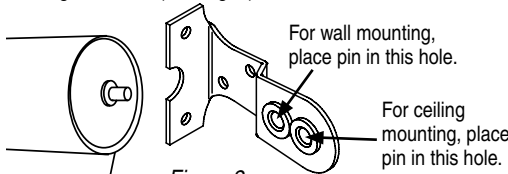

Figure 2
- ⑪ Insert idler end into right bracket (see Fig. 2).